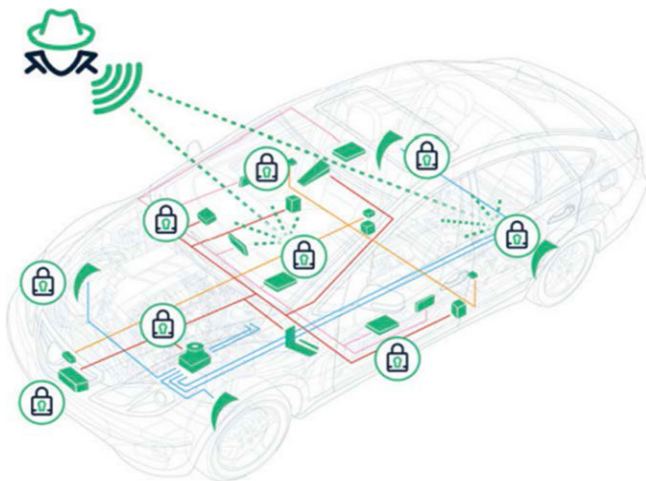

Figure 3: Securing ECUs from cyberattacks by employing an embedded firewall and certificate-based authentication (Source: Sectigo)
**Authentication:** During a communication session (Figure 3), authentication verifies that who you are communicating with is actually who they say they are, i.e., is the other device or process really who it claims to be? For authentication, a public key infrastructure (PKI) to manage and issue digital certificates is crucial. Every ECU must be identifiable and PKI-based certificates provide strong authentication for machine-to-machine communication. Another aspect of PKI security is code signing to enable secure boot and secure updates. With V2I communications, high-speed automated certificate issuance is mandatory since hosting and managing the entire process securely is essential. Where is the certificate authority hosted? How is certificate issuance performed? Is it automated? Is it secure? How are private keys protected?